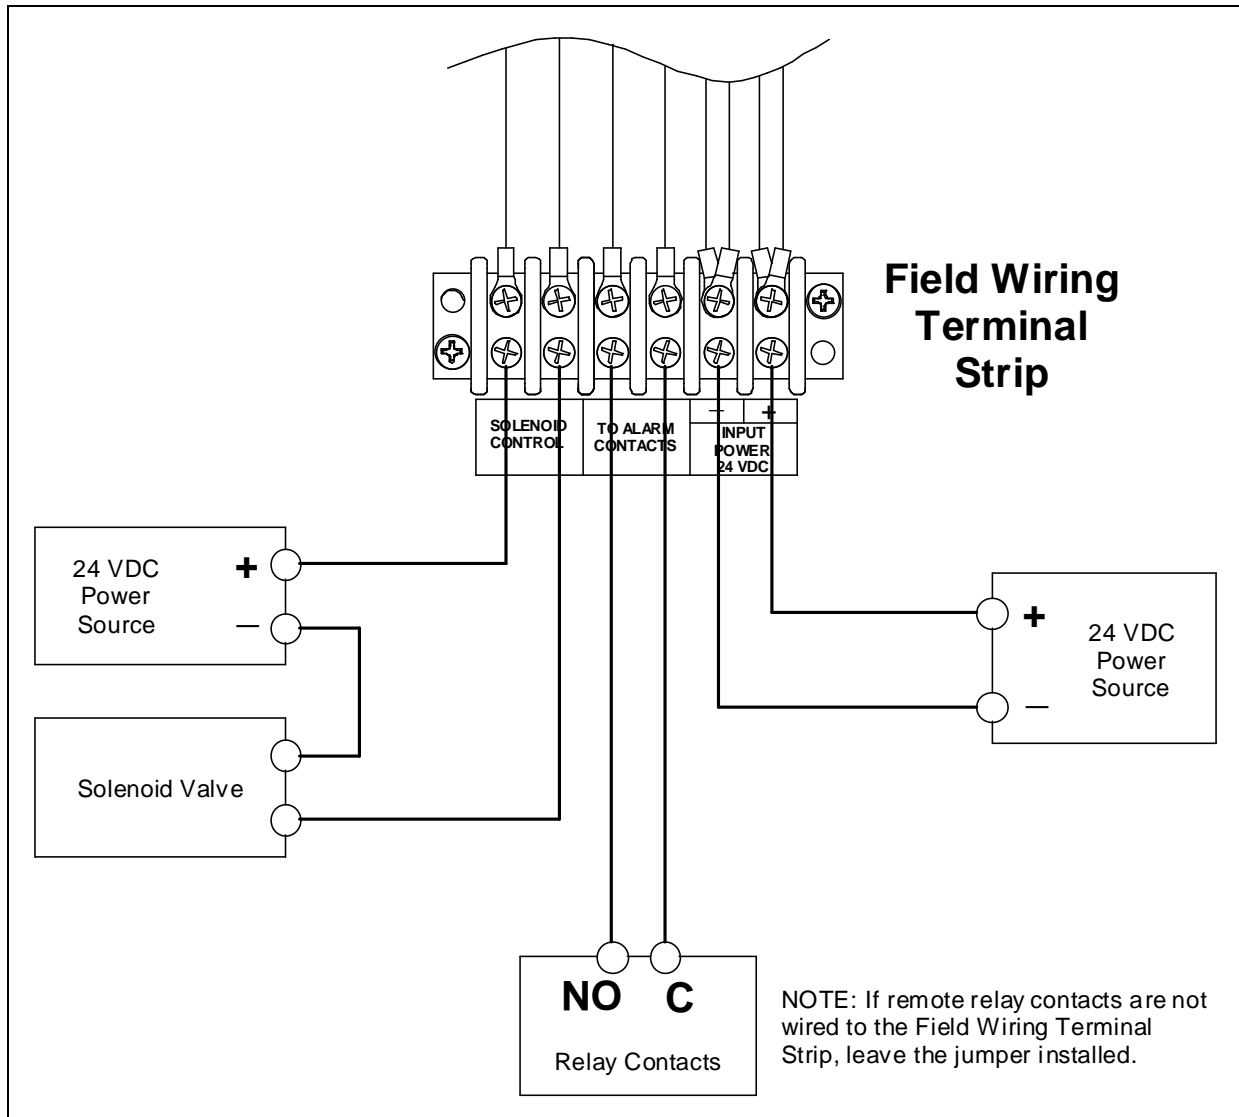
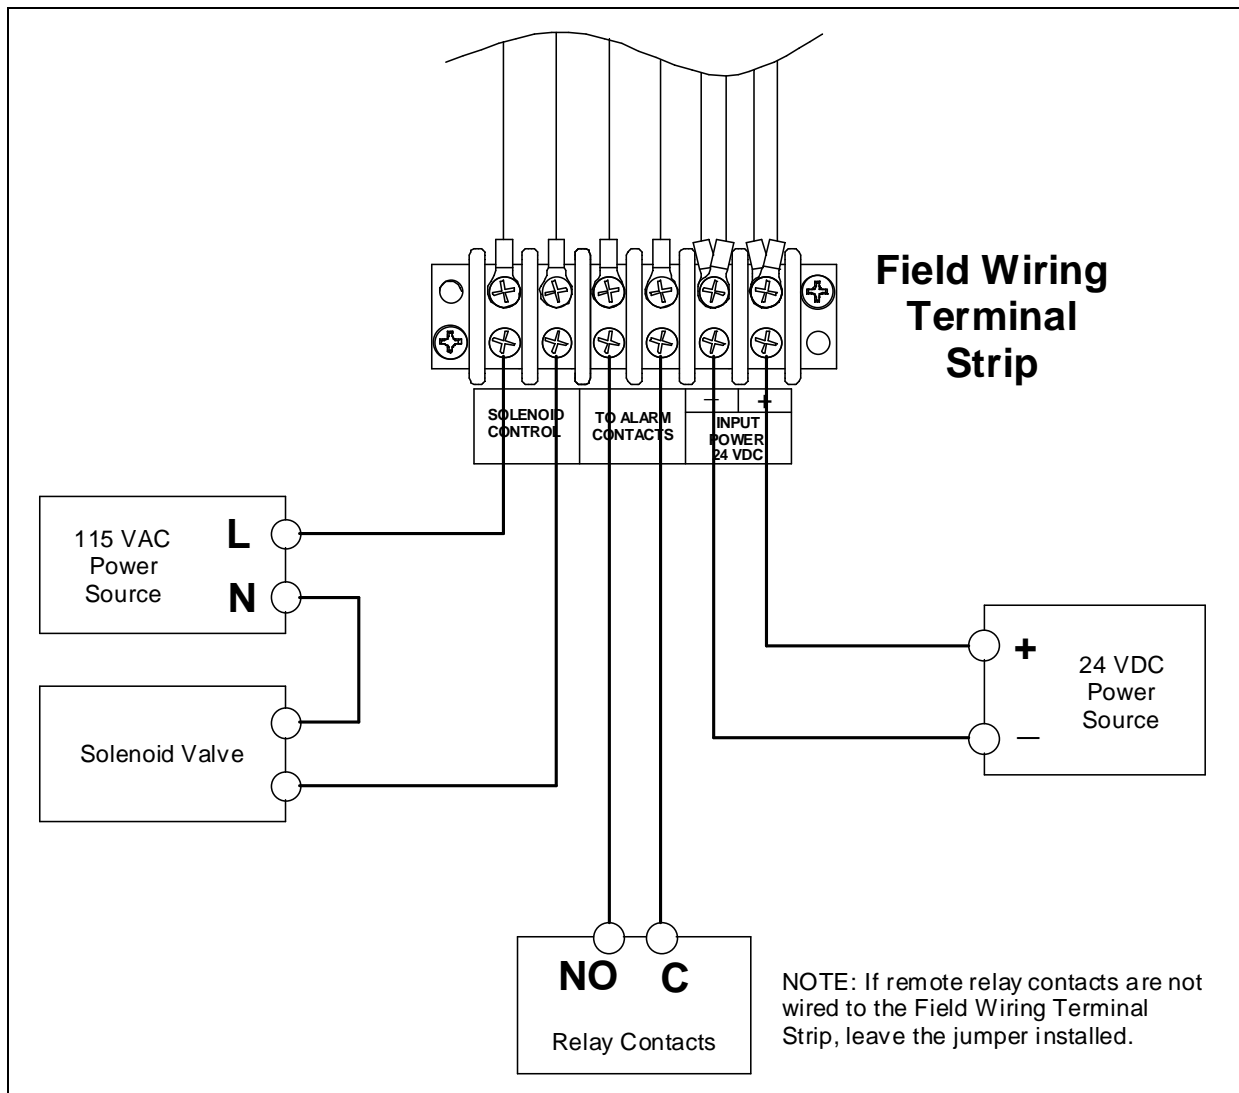

Figure 5: Field Wiring, DC-Powered Solenoid Valve
Figure 6: Field Wiring, AC-Powered Solenoid Valve
5. Connect the other end of both wires to the appropriate "Input Power 24 VDC" terminal on the Field Wiring Terminal Strip as shown in Figure 5 below.
7. Connect one end of the two wires to the "Solenoid Control" terminals on the Field Wiring Terminal Strip as shown in Figure 5 and Figure 6 below.
8. Connect the other end of the wires to the + or line terminal on a 24 VDC or 115 VAC power source and to the solenoid valve's + or line input as shown in Figure 5 and Figure 6 below.
9. For a DC-powered solenoid valve, connect the - terminal on the 24 VDC power source to the solenoid valve's - input as shown in Figure 5 below.
10. For an AC-powered solenoid valve, connect the N terminal on the 115 VAC power source to the solenoid valve's N input as shown in Figure 6 below.
15. Connect the wires to the NO and C contacts on the relay that you want to use to control the solenoid valve (as shown in Figure 5 and Figure 6 below). When the relay contact is closed, power is supplied to the solenoid valve. When the relay contact opens, the power line to the solenoid valve is cut.